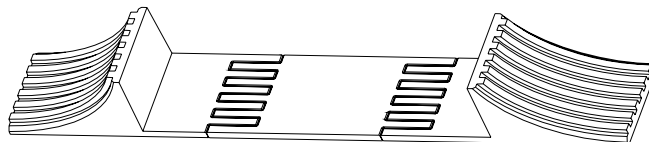

Figure 2-3 Making base
1. Take out a pair of support bases delivered with the power module, and a support base extension delivered with the battery module, use step 1 in section 2.3.1 to fit them together to make a base, and put it down flat on the installation surface, as shown in Figure 2-3; likewise, make another base and put it down flat on the installation surface.